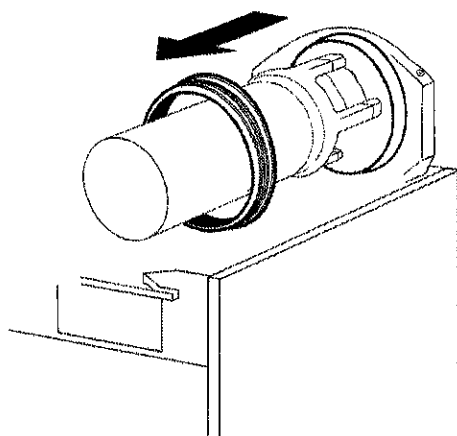

figure 9
- 4 - Remove the bowl gasket from its seat (see figure 9).